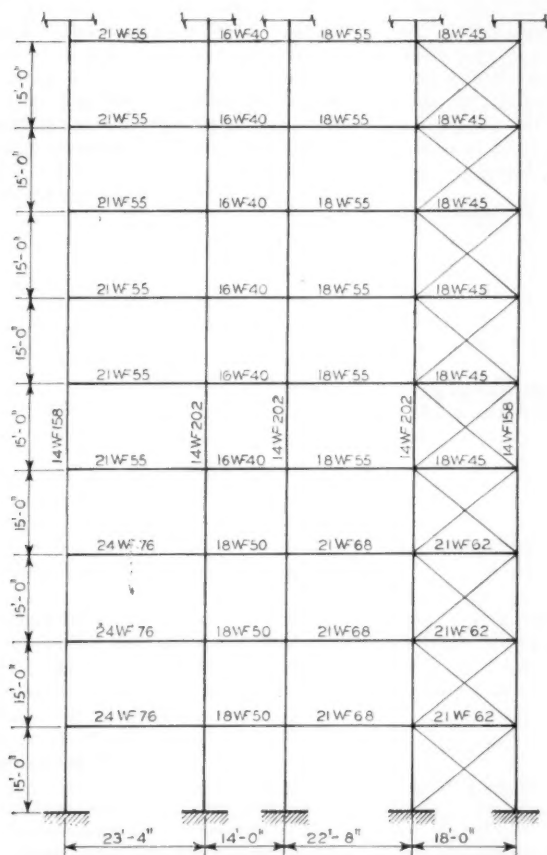
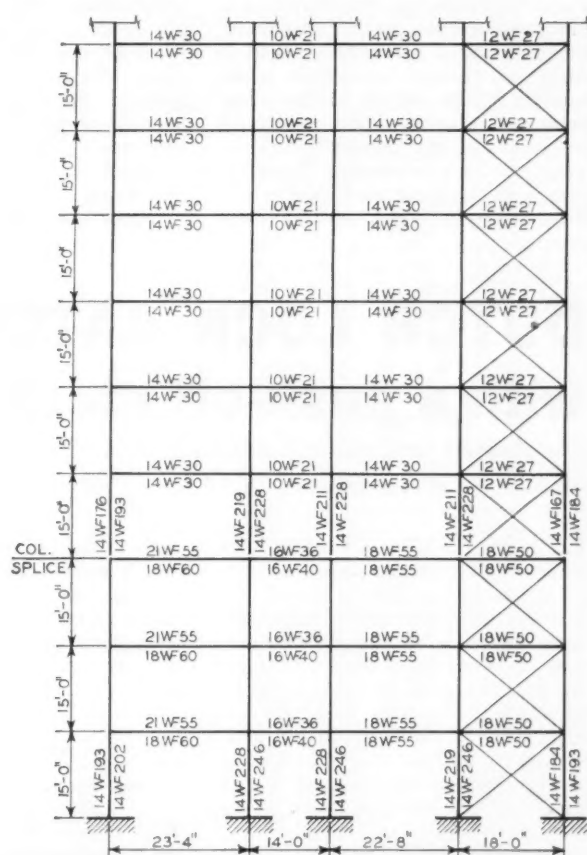

FIG. 1. For simple-frame construction the total column weight is 124,470 lb and the total beam weight 39,710 lb, making the total steel weight 164,180 lb.
FIG. 2. For rigid-frame construction the total column weight is 141,190 lb and the total beam weight 25,020 lb, a total of 166,210 lb.
were designed for the same loads and for the same allowable stresses. The comparison applies only to the steel on the column rows; an equal number of bays in each direction was assumed. The simple frame is shown in Fig. 1 and the rigid frame in Fig. 2. Sizes above beams and to the left of columns are for beams framing into strong axes of columns. Sizes below beams and to the right of columns are for beams framing into weak axes of columns. As the number of bays in each direction is the same, the average of the two sizes was used as the comparable weight for the rigid frame.
**Column sizes shown on the simple frame**, Fig. 1, were not calculated but average 185 lb per ft. For simplicity, changes in the size of columns from axial loads were ignored. In several powerhouses of simple-frame design, the columns weigh an average of 185 lb per ft. This average size does not vary much from bottom to top of columns as heavy loadings such as coal bunkers, boiler girders and air heaters are generally located near the tops of the columns.
**The increased column sizes for the rigid frame** shown in Fig. 2 are solely the result of the bending moment introduced from the rigid beam connections. This is because, to simplify comparison, the axial loading for each column in the rigid-frame design was assumed equal to the total allowable axial loading for the column size used in the simple-frame design.
arms of which the wheels are fastened, the wheels will push outward. See Fig. 1 (a). Thus they hold the gate laterally against the water pressure. If the pressure is  $W$ , and the ratio between the arms of the levers is  $a:b$ , the force needed to push off the gate is  $Wa/b$ .
The pressure of the gate on the lock floor must be larger than the force required to push off in order to prevent the gate from being lifted as soon as it is free from the seals. On the lifting rod  $T$ , a stop piece  $N$  is fastened. After  $N$  comes against the stop plate,  $S$ , which forms part of the gate, the levers will not turn further on their axes and the gate is raised. See Fig. 1 (b).
FIG. 1. Gate with push-off apparatus is pressed tight against seal in (a), has just been freed from seal in (b). Water pressure is in one direction only. S = stop plate on gate. N = stop piece. T = lifting rod,  $r$  = wheel,  $a$  = short lever arm,  $b$  = long lever arm.
FIG. 2. Where water pressure on gate is very strong (in one direction), heavy push-off mechanism is used with two sets of wheels. One set,  $r$ , roll on inclined rails while the larger set,  $R$ , roll on vertical rails and turn in the opposite direction. The inclined rails are part of the gate; the vertical rails are fixed to the supporting concrete structure.
Where the water pressure is very strong, another push-off system has been designed for use (Fig. 2). During the push-off period the wheels  $r$  roll along inclined rails, turning in a direction opposite to that of the wheels  $R$ , which roll along vertical rails. The inclined rails are part of the gate; the vertical rails are fixed to the concrete supporting structure. If the inclination of the inclined rails is 20 : 1, the push-off force, by pulling the gate with a force of 100  $t$ , is 2,000  $t$ .